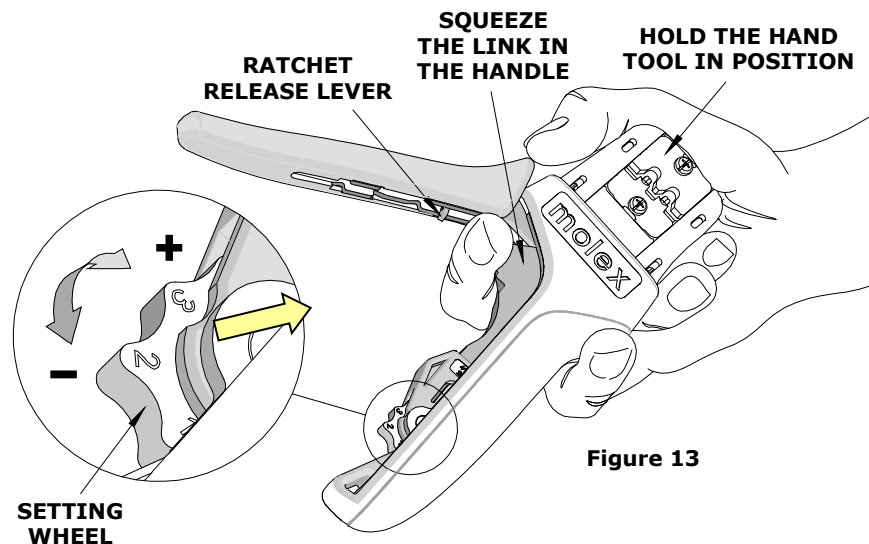

Figure 13
## How to Adjust Tool Preload (See Figure 13)
1. Hold the hand tool in the palm of your hand as shown in Figure 13. Using your index finger, squeeze the link toward the top of the hand tool frame. This will release the preload adjustment wheel.
2. Rotate the setting wheel counterclockwise (CCW) to increase handle force. The numbers will display higher. To decrease handle force, rotate the setting wheel clockwise (CW).